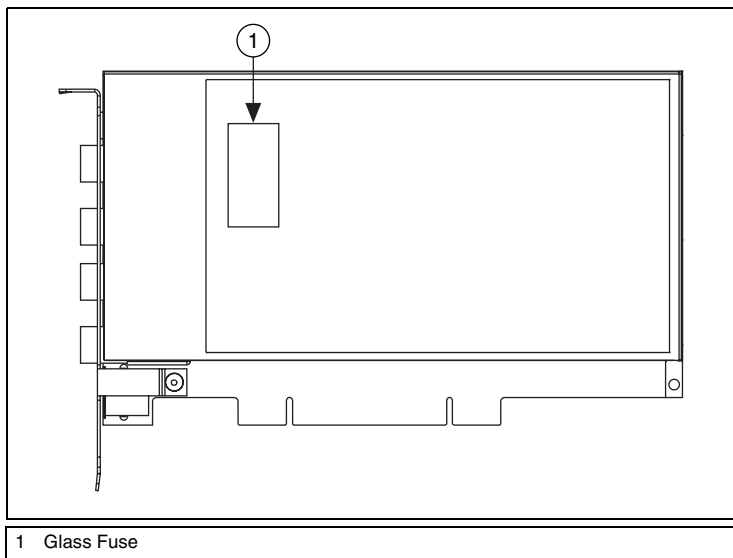

Figure 17. Removing the Fuse from the NI PCI-4060
5. Locate the 5 × 20 mm glass fuse shown in Figure 17.